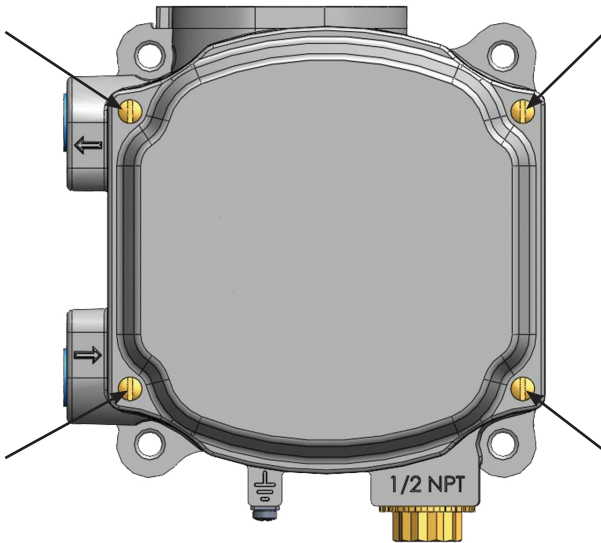

Figure 18 - Front Cover
1. Loosen the four (4) cover screws and remove the SVi1000 cover (Figure 18).